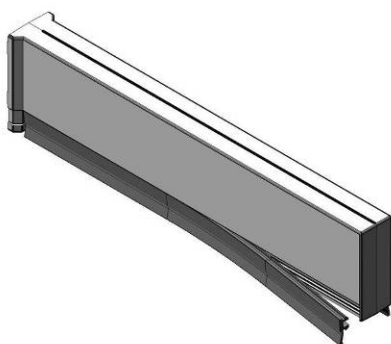
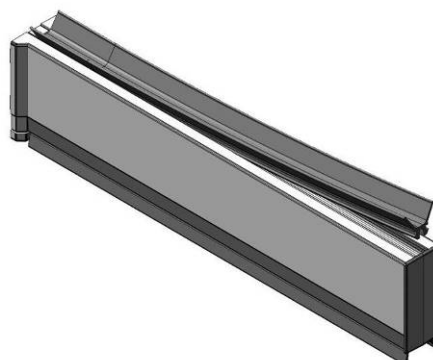

Figure 3
Figure 4
- To replace the gasket simply pull the gasket and remove it (see Figure 3 and Figure 4). Be careful to correctly home reposition the gasket.